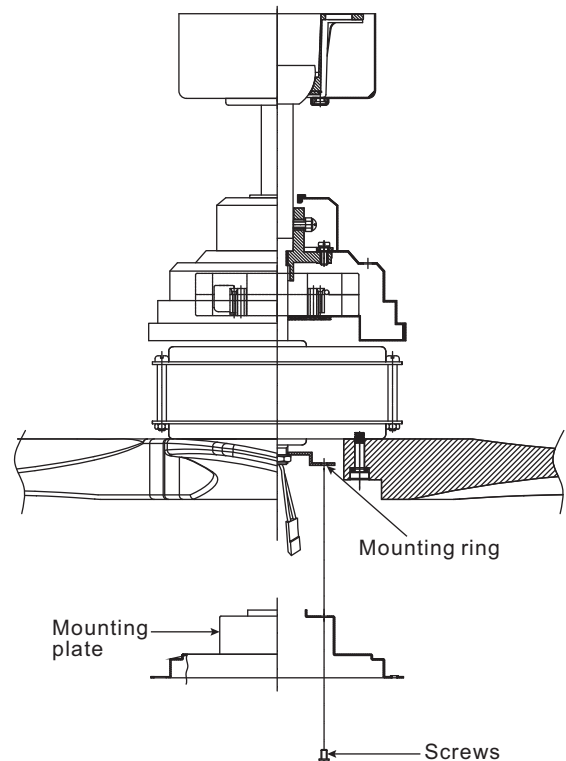

Figure 14
Step 3. Remove the 1 of 3 screws from the mounting ring and loosen the other 2 screws. (Do not remove) (Fig. 14)
Step 4. Place the key holes on the mounting plate over the 2 screws previously loosened from the mounting ring, turn mounting plate until it locks in place at the narrow section of the key holes. Secure by tightening the 2 screws previously loosened and the one previously removed. (Fig. 14)